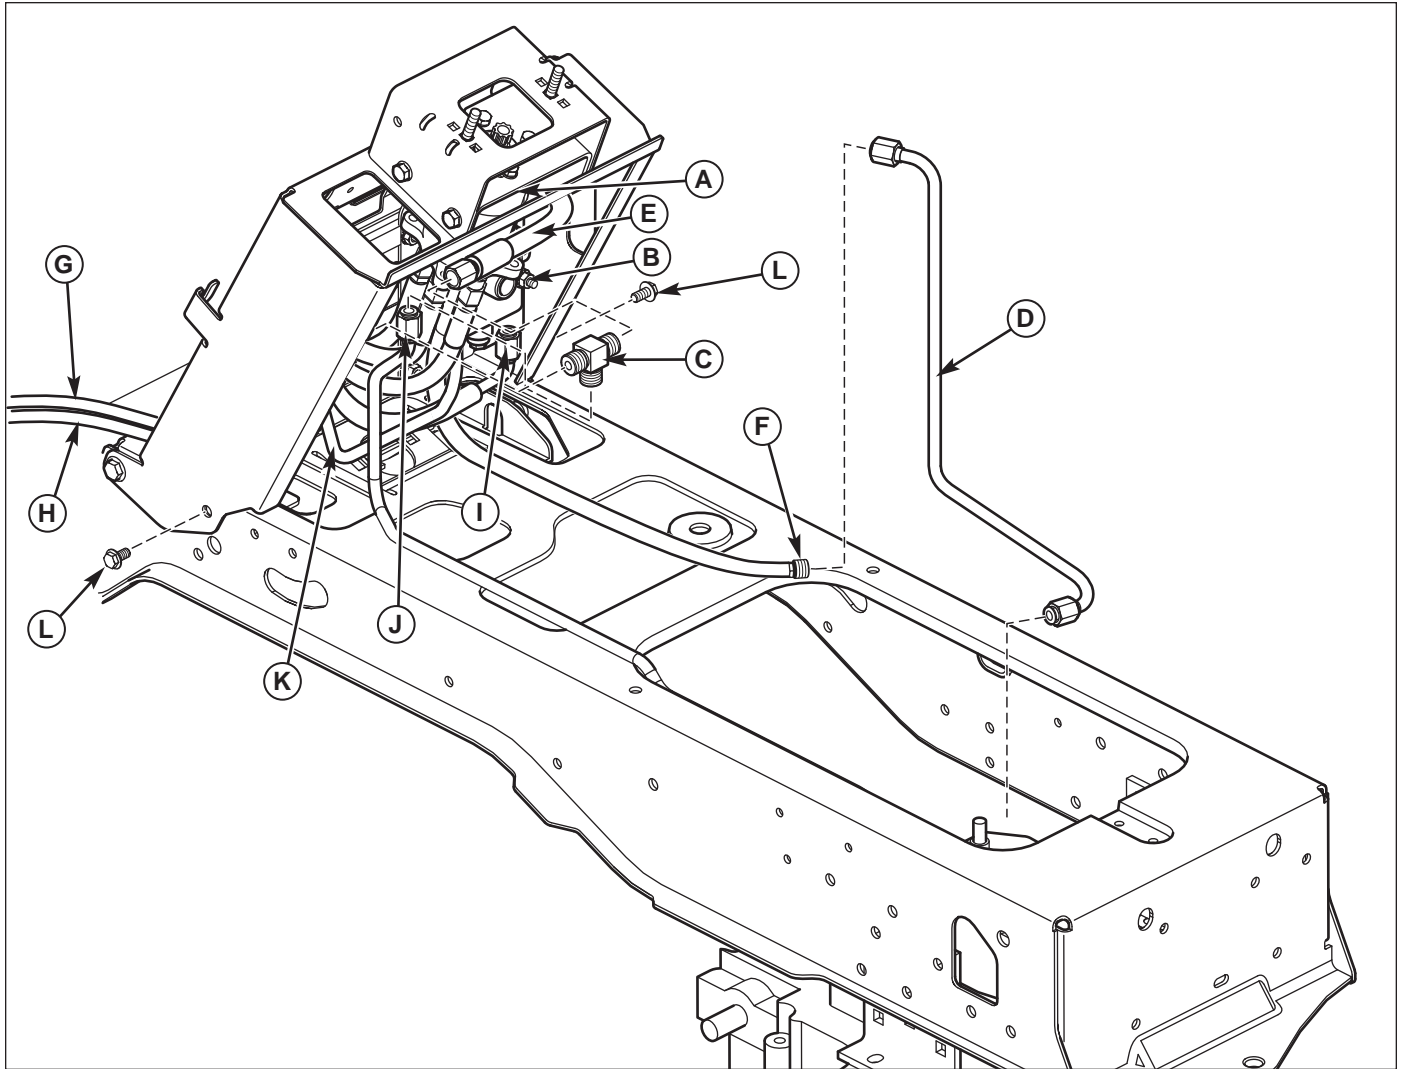
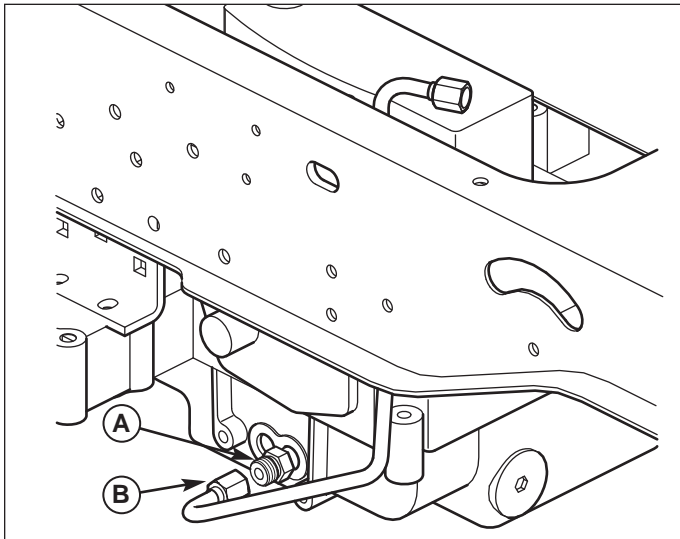
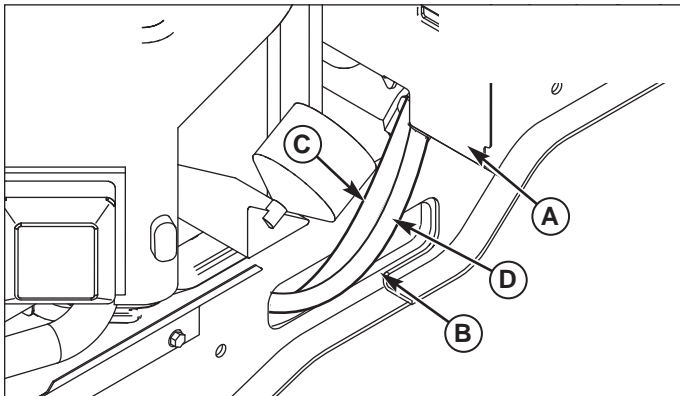

Figure 17 Power Steering & Hydraulic Hose Installation
Figure 18 Hydraulic Tube to Transmission
Figure 19 Hydraulic Hose Routing
5. Attach existing tube (K, Figure 17), and existing tube (J) to new three-way "T" (C) as shown.
6. Wrap hydraulic hose (E) (labeled "Port T") around the back of the power steering unit (A), and attach it to the new three-way "T" (C) as shown.
7. Loop hydraulic hose (I) (labeled "Port E") around the front of the power steering unit (A), and attach the hose fitting to the control valve spool (B) as shown.
8. Route hydraulic hoses (G) and (H) (labeled "Port R" and "Port L") out the bottom of the bulkhead heat-shield, and through the frame as shown in Figure 17 and Figure 19.
9. Attach hydraulic tube (D) to hydraulic hose (F) (labeled "Port P") as shown.
10. Install two 3/8-16 x 3/4 Taptite screws (L) as shown. Tighten all four screws to 30 ft. lbs (40.8 Nm).
11. Attach hydraulic tube (B, Figure 18) to transmission (A) as shown.